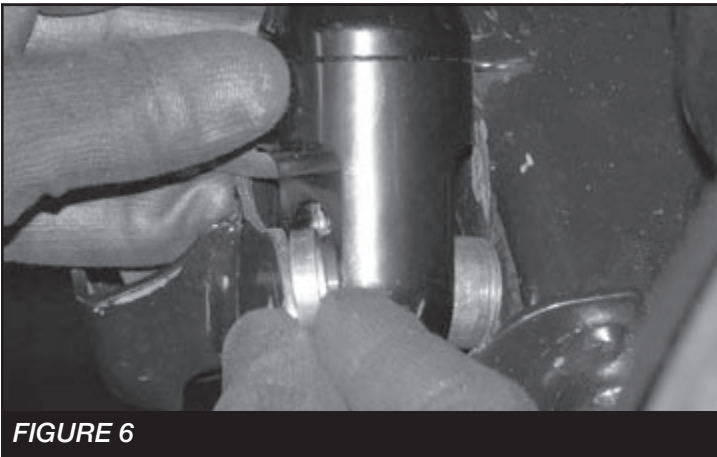

FIGURE 6
8. Place the lower rod end of the shock into the lower shock mount. Position the smaller spacer towards the front of the vehicle and the larger spacer towards the rear. This will offset the shock towards the front of the truck. **SEE FIGURE 6**